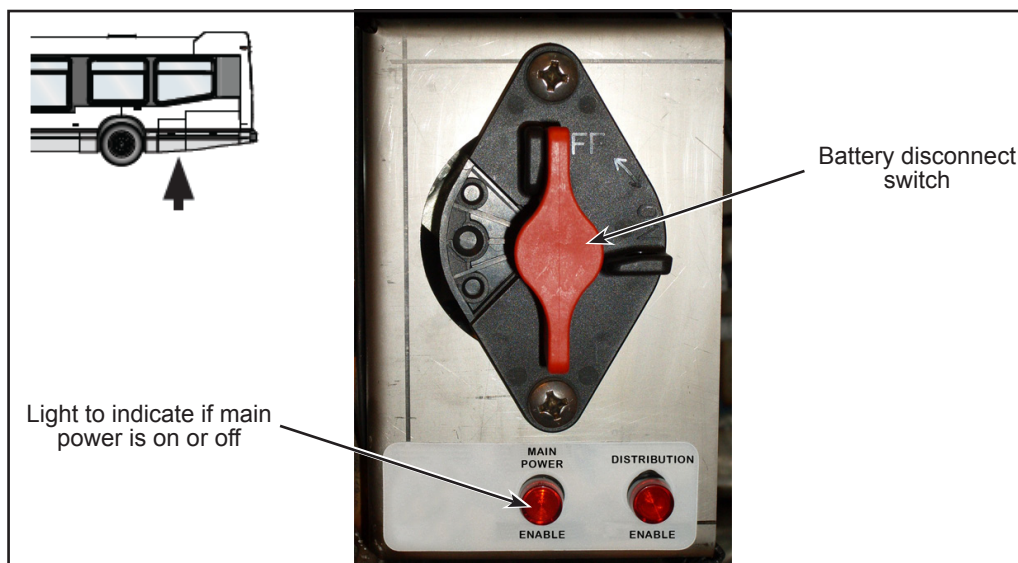

Figure 2 - Battery disconnection switch position
- 1.2. Set the battery disconnect switch in the battery compartment to the OFF position (see Figure 2).